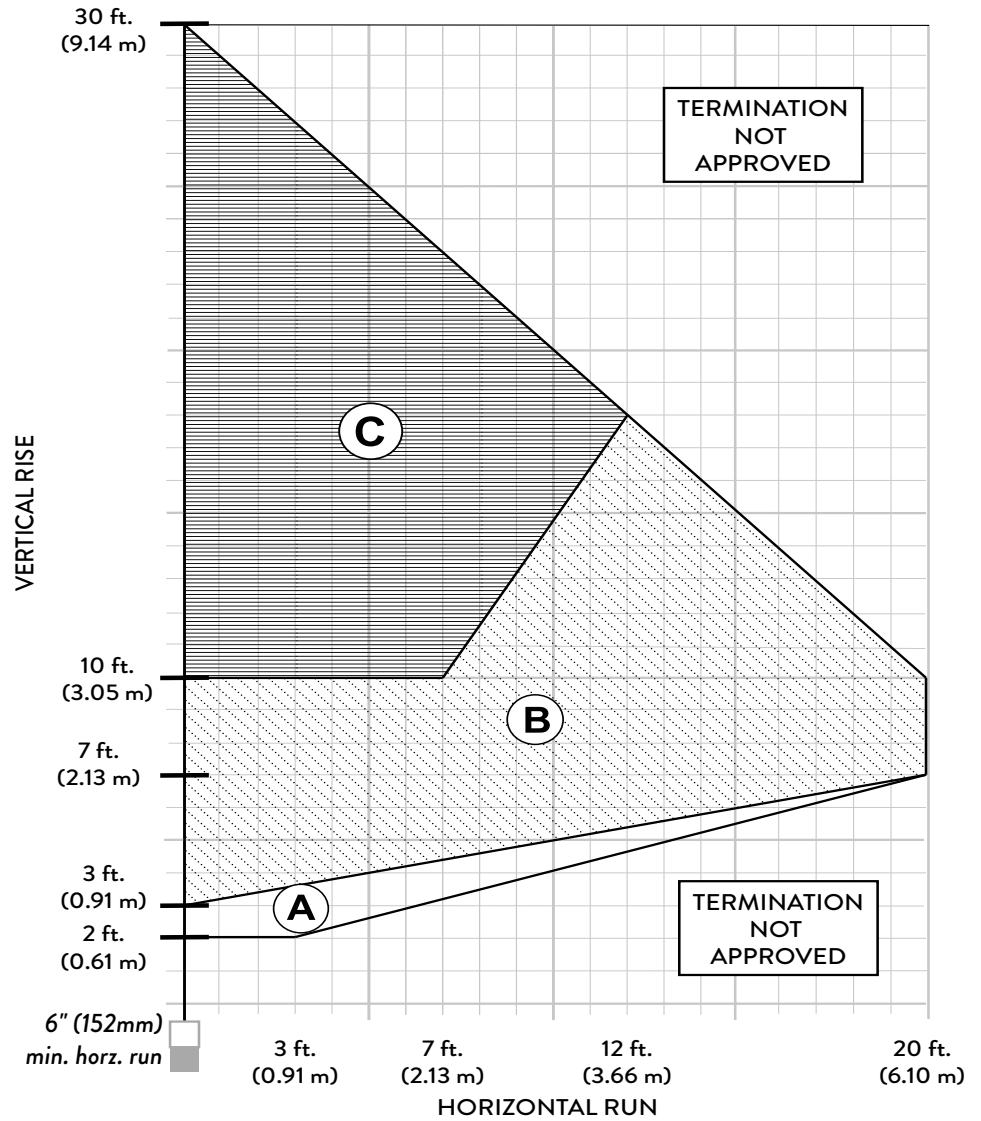

Figure 6.2.
The Exhaust Restrictor plate is located on the rear of the firebox. It is adjusted by rotating the dial on the back shroud within a range beginning at the factory-set, fully open position (no restriction) to a fully restricted position. See Figs. 6.2 and 6.3. The Minus (-) and Plus (+) signs on the dial relate to degrees of restriction, from zero to approximately 70%. The three, lettered positions correlate to the termination zones (A,B,C) diagrammed in figure 6.2. Use the diagram to determine the degree of restriction and shutter setting that correlates to your vent configuration.
Determine the dial notch position appropriate to your vent configuration as designated in Fig 6.2. Pivot the dial to align the screw with that notch.
- The termination should fall within the shaded areas of the grids depicted in the Vent Matrix, fig. 6.2, page 11.
- **Maximum Horizontal run is 20 ft. (152 cm)** See Fig. 6.2 for related termination zone limitations.
- Any horizontal termination must fall within the shaded portion of the vent window matrix shown in fig. 6.2.